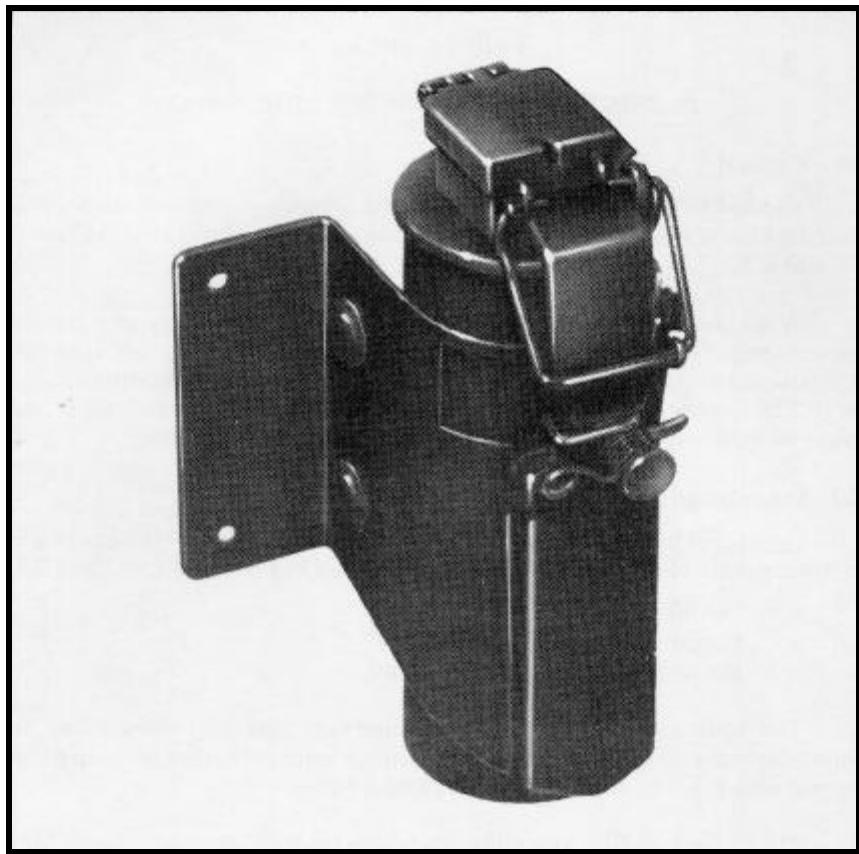

Figure 6-1     Flare, Surface, Trip, M49A1
1. The M49A1 flare resembles the No. 83 grenade in size and shape. It is issued with a removable U-shaped mounting bracket as illustrated in Figures 6-1 and 6-2.
1. General. The flare, which is OLIVE DRAB, in colour, consists of the following main components which are illustrated in Figures 6-1, 6-2 and 6-3.